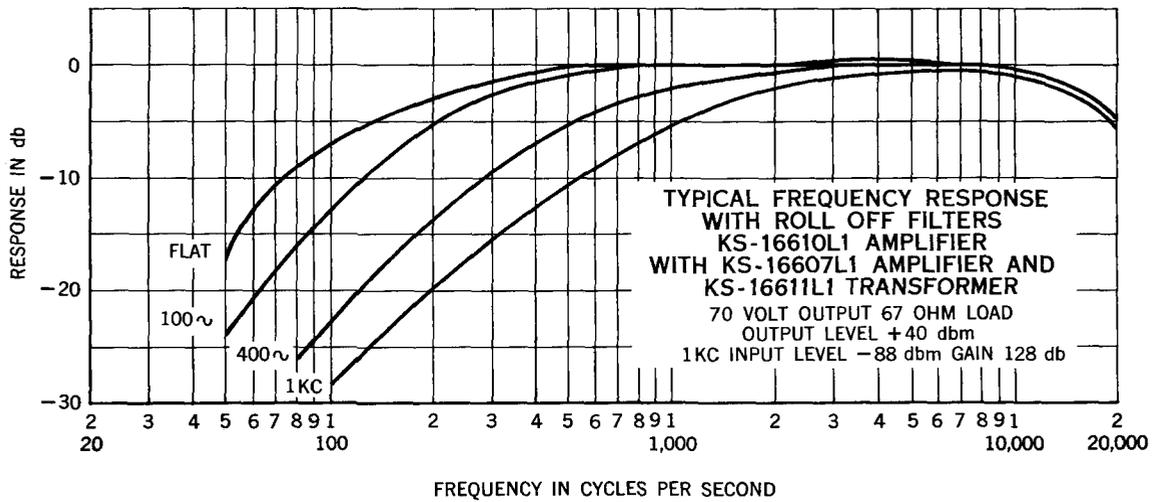

Fig. 8 - Roll-Off Frequency Response of Basic Amplifier Equipped with Preamp and Transformer
6.05 Fig. 8 shows the frequency response when the KS-16610, L1 Amplifier is equipped with a KS-16607, L1 Amplifier and a KS-16611, L1 Transformer. The curves show the various options for low frequency cutoff. These options are available for the reasons discussed previously.